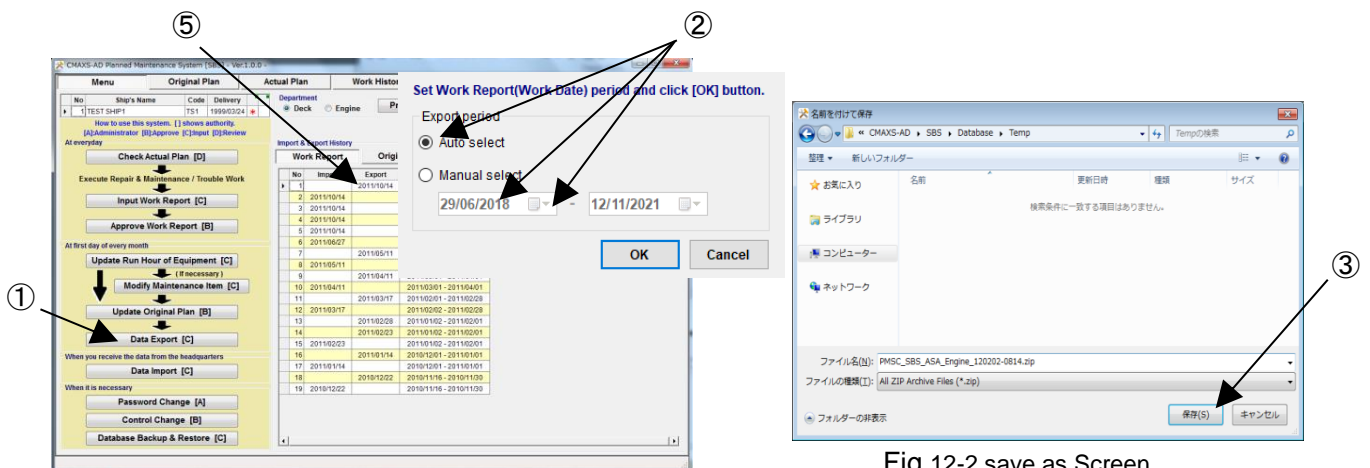

Fig.12-1 Menu Screen
(1) On the "Menu screen"(Fig.12-1), select [Data Export].